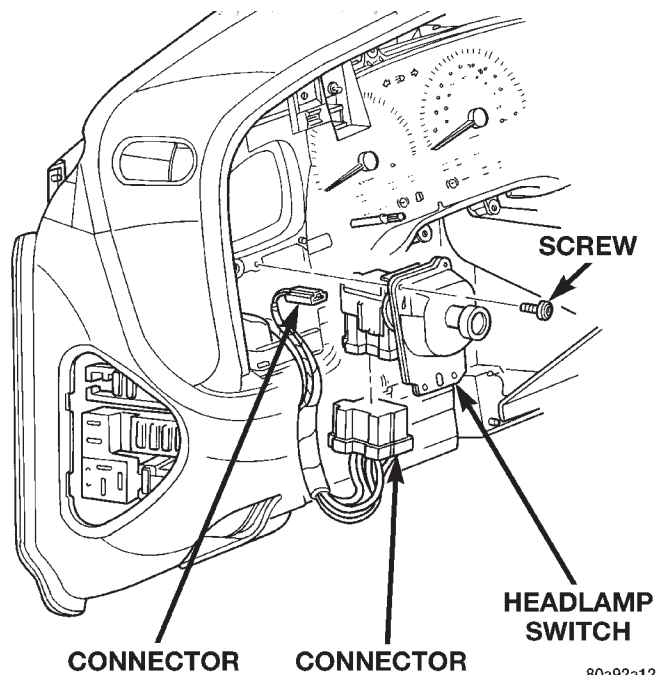

Fig. 3 Headlamp Switch and Bezel Remove/Install
(1) Disconnect and isolate the battery negative cable.
(2) Remove the cluster bezel from the instrument panel. See Cluster Bezel in the Removal and Installation section of this group for the procedures.
(3) Remove the three screws that secure the headlamp switch bezel to the instrument panel (Fig. 3).